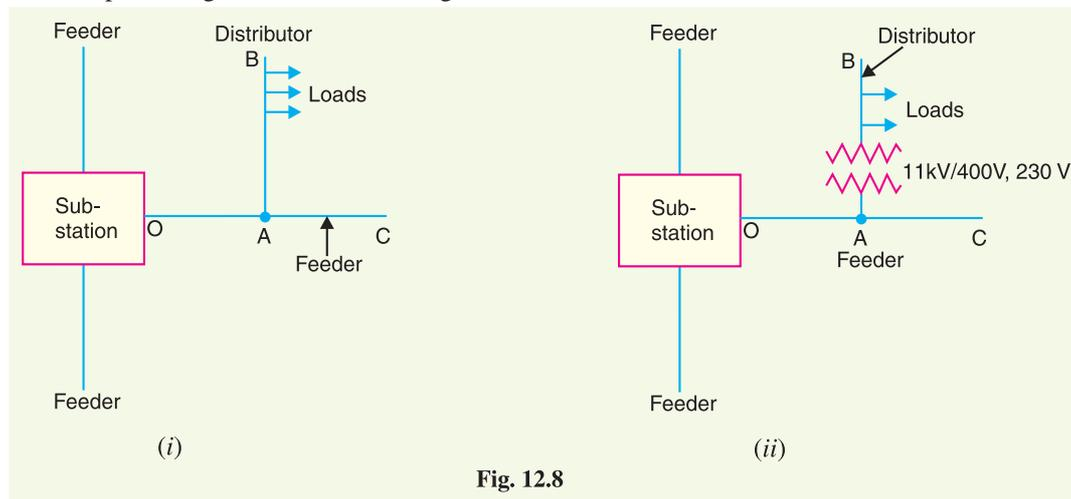

Fig. 12.8
- (i) **Radial System.** In this system, separate feeders radiate from a single substation and feed the distributors at one end only. Fig. 12.8 (i) shows a single line diagram of a radial system for d.c. distribution where a feeder  $OC$  supplies a distributor  $AB$  at point  $A$ . Obviously, the distributor is fed at one end only *i.e.*, point  $A$  is this case. Fig. 12.8 (ii) shows a single line diagram of radial system for a.c. distribution. The radial system is employed only when power is generated at low voltage and the substation is located at the centre of the load.